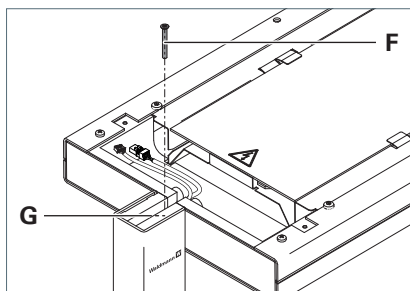

Fig. 14: Fastening the light head.
- Screw the screw **F** into the bore **G** in the support arm and tighten the screw, see Fig. 14.